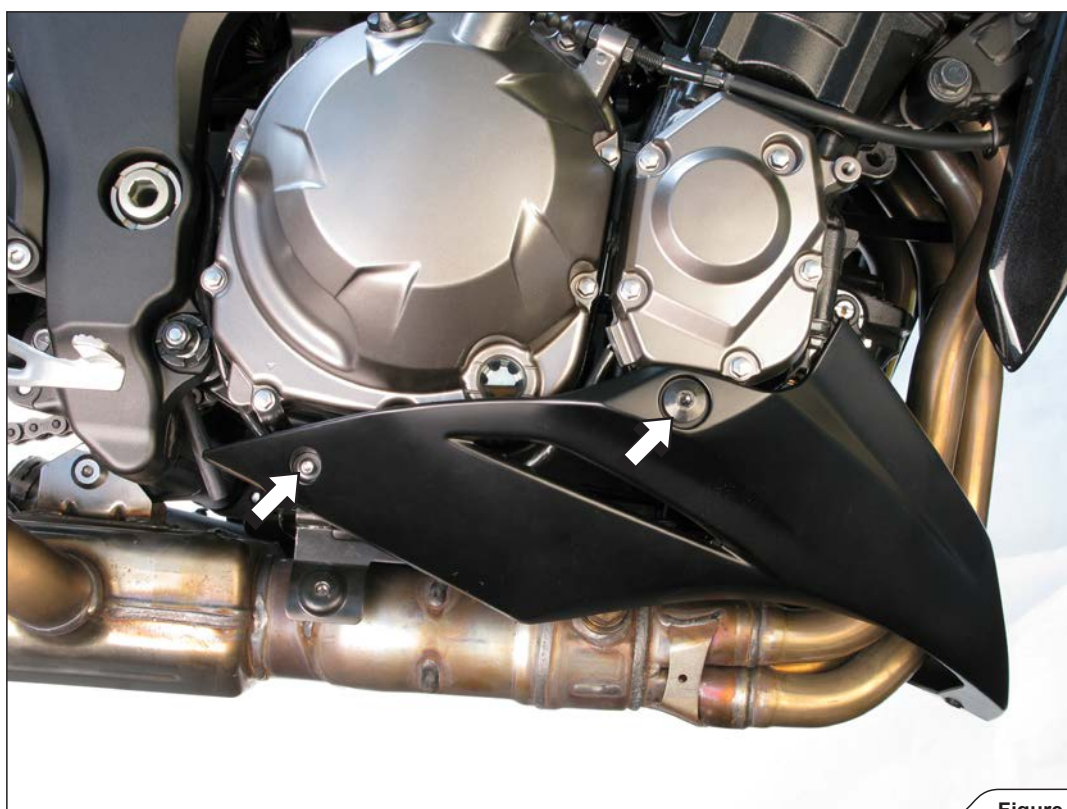

Figure 2
3. **For Z1000 model only:** unscrew the marked bolts on both sides of the motorcycle and carefully remove the lower cowling off the motorcycle (**Figure 2**).